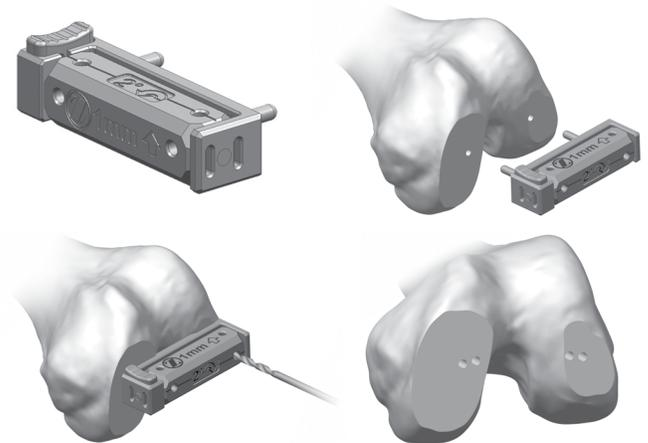

Fig. 25 Persona Shift Block
- If needed, use the *Persona* Shift Block to adjust the *Persona* Posterior Referencing 4-in-1 Cut Guide rotation (2°) or AP position (1mm) prior to making any cuts with the *Persona* Posterior Referencing 4-in-1 Cut Guide. Place the pegs of the *Persona* Shift Block in the holes created by the *Zimmer FuZion* Sizer for the *Persona* Posterior Referencing 4-in-1 Cut Guide. Establish the new block position by drilling through the holes on the face of the *Persona* Shift Block that specifies the adjustment that is intended. Use a 3.2mm Drill to drill the holes (Fig. 25). Use the *Zimmer FuZion* 4-in-1 Cut Guide Adapter to verify the *Persona* Posterior Referencing 4-in-1 Cut Guide's new position is correct.